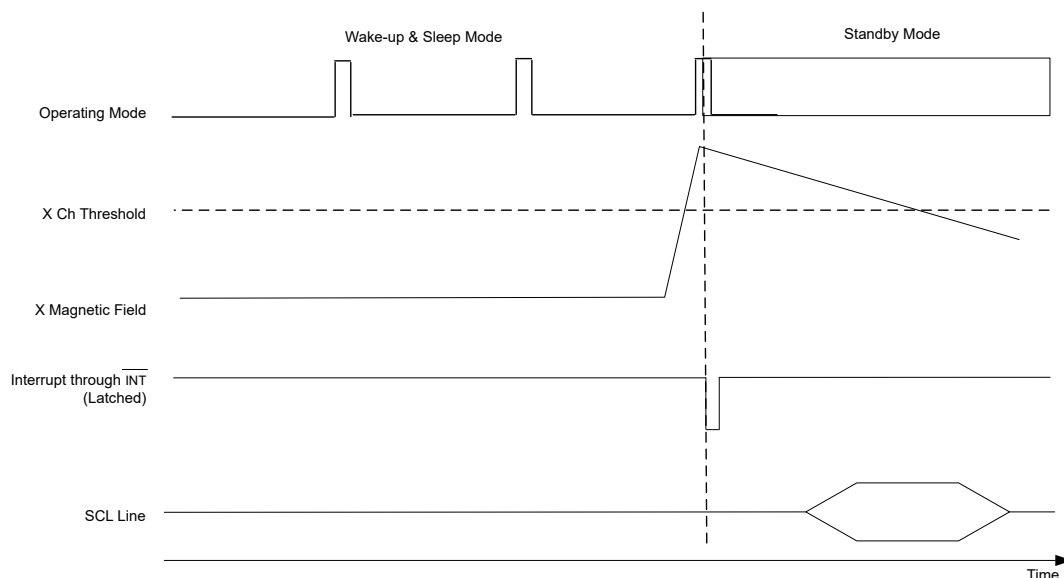

Figure 8-11. Wake-Up and Sleep Mode Operation With Back-Up Battery
- If a threshold detection even occurs, the $\overline{\text{INT}}$ signal asserts low to wake-up the microcontroller. When $\overline{\text{INT}}$ goes low, perform the 16-bit T, X, Y, Z register read with one single read command (see Figure 8-11).